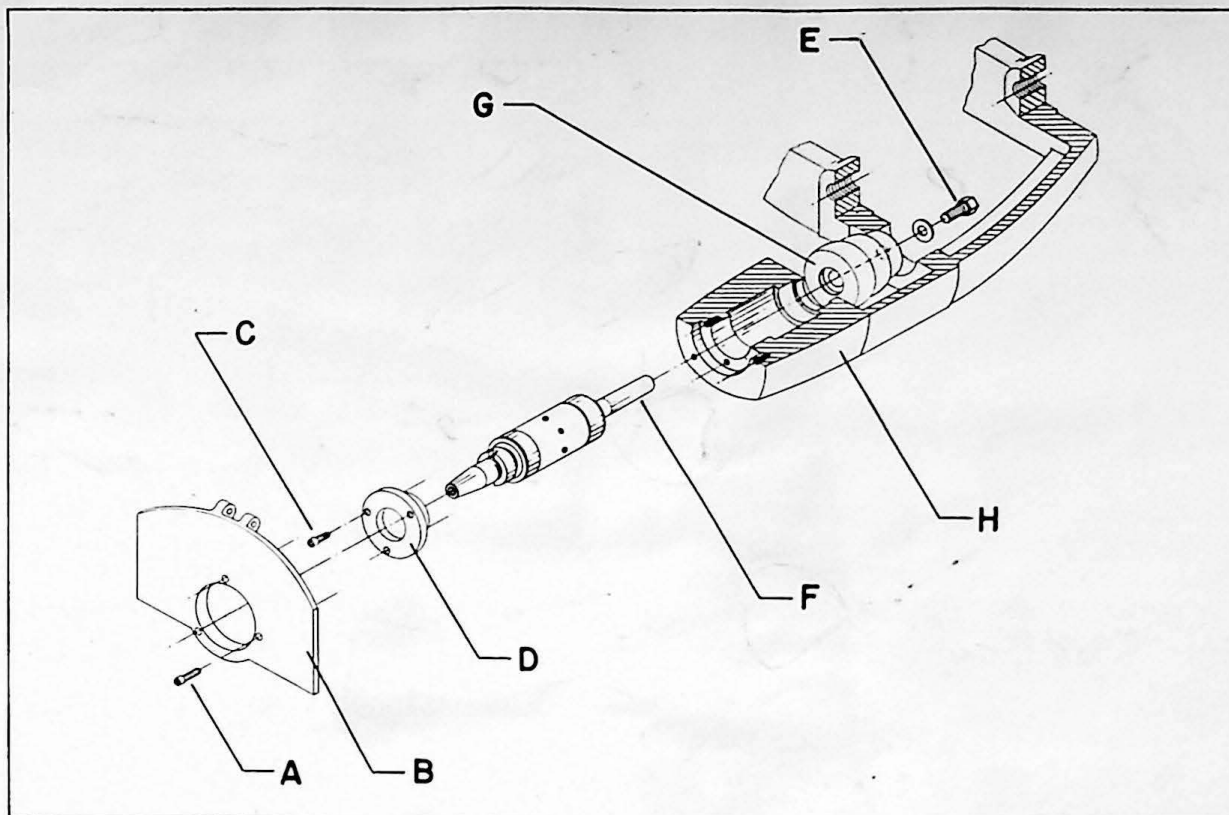

Fig. 16.
3. Remove the three screws (A) Fig. 16, and remove the rear wheel guard (B) from the machine.
4. Remove the three screws (C) Fig. 16, and spindle retainer (D).
5. Loosen screw (E) Fig. 16, three or four turns.
6. Using long brass rod and a hammer, tap the screw (E) Fig. 16, until the spindle is free from the spindle pulley (G). This is necessary because the spindle and spindle pulley are tapered fit.
7. When the taper is broken, remove the screw (E) from the rear of the spindle. The spindle (F) can now be removed from the spindle housing (H) Fig. 16.
8. Remove the spindle pulley (G) from inside the belt guard.